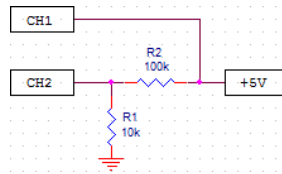

Figure 51: Resistor divider
- 1) Build the circuit shown on figure 51.